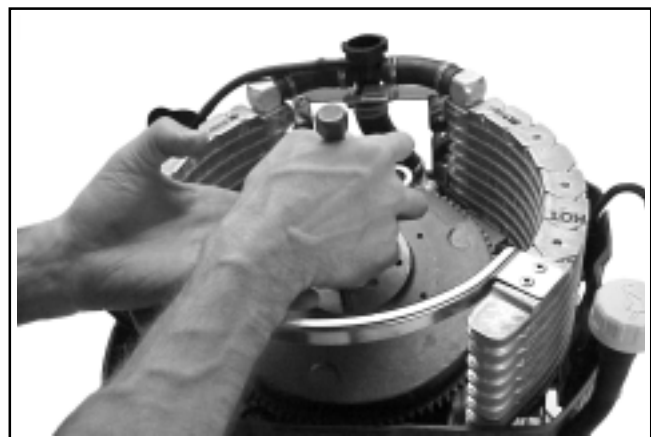

Figure 9-30. Removing Flywheel, Using Puller as a Handle.
- Work the flywheel out from under the main bracket using the puller as a handle. See Figure 9-30.